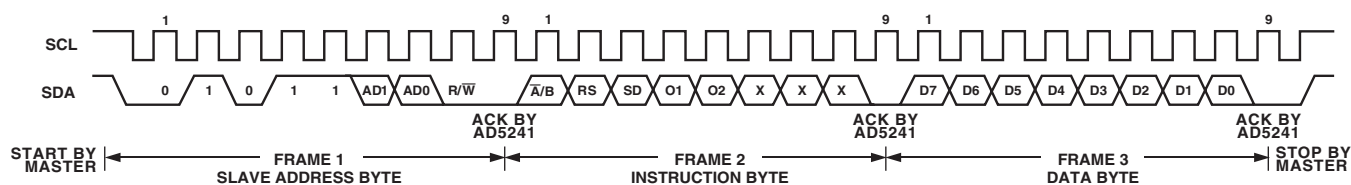
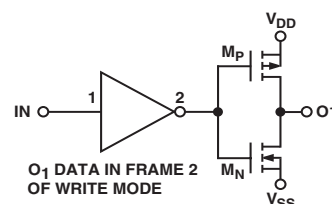

Figure 2. Writing to the RDAC Serial Register
Figure 7. Output Stage of Logic Output O_1
Referring to Figures 2 and 3, the first byte of AD5241/AD5242 is a Slave Address Byte. It has a 7-bit slave address and an R/ $\overline{W}$ Bit. The 5 MSBs are 01011 and the following two bits are determined by the state of the AD0 and AD1 Pins of the device. AD0 and AD1 allow users to use up to four of these devices on one bus.
1. The master initiates data transfer by establishing a START condition, which is when a high-to-low transition on the SDA line occurs while SCL is high (Figure 2). The following byte is the Slave Address Byte, Frame 1, which consists of the 7-bit slave address followed by an R/ $\overline{W}$ Bit (this bit determines whether data will be read from or written to the slave device).
Pin except that $\overline{\text{SHDN}}$ Pin reacts to active low. The following two bits are O_2 and O_1 . They are extra programmable logic outputs that users can use to drive other digital loads, logic gates, LED drivers, analog switches, and the like. The three LSBs are Don't Care. See Figure 2.
- After acknowledging the Instruction Byte, the last byte in Write Mode is the Data Byte, Frame 3. Data is transmitted over the serial bus in sequences of nine clock pulses (eight data bits followed by an Acknowledge Bit). The transitions on the SDA line must occur during the low period of SCL and remain stable during the high period of SCL (Figure 2).
- When all Data Bits have been read or written, a STOP condition is established by the master. A STOP condition is defined as a low-to-high transition on the SDA line while SCL is high. In Write Mode, the master will pull the SDA line high during the tenth clock pulse to establish a STOP condition (see Figure 2). In Read Mode, the master will issue a No Acknowledge for the ninth clock pulse (i.e., the SDA line remains high). The master will then bring the SDA line low before the tenth clock pulse, which goes high to establish a STOP condition (see Figure 3).
Specific to the AD5242 dual-channel device, the channel of interest is the one that was previously selected in the Write Mode. In addition, to read both RDAC values consecutively, users have to perform two write-read cycles. For example, users may first specify the RDAC1 subaddress in the Write Mode (it is not necessary to issue the Data Byte and the STOP condition), then change to the Read Mode and read the RDAC1 value. To continue reading the RDAC2 value, users have to switch back to the Write Mode and specify the subaddress, then switch once again to the Read Mode and read the RDAC2 value. It is not necessary to issue the Write Mode Data Byte or the first stop condition for this operation. Users should refer to Figures 2 and 3 for the programming format.
AD5241/AD5242 feature additional programmable logic outputs, O_1 and O_2 , that can be used to drive digital load, analog switches, and logic gates. They can also be used as self-contained shutdown as preset to logic 0 feature which will be explained later. O_1 and O_2 default to logic 0 during power-up. The logic states of O_1 and O_2 can be programmed in Frame 2 under the Write Mode (see Figure 2). Figure 7 shows the output stage of O_1 which employs large P and N channel MOSFETs in push-pull configuration. As shown, the output will be equal to V_{DD} or V_{SS} , and these logic outputs have adequate current driving capability to drive milliamperes of load.